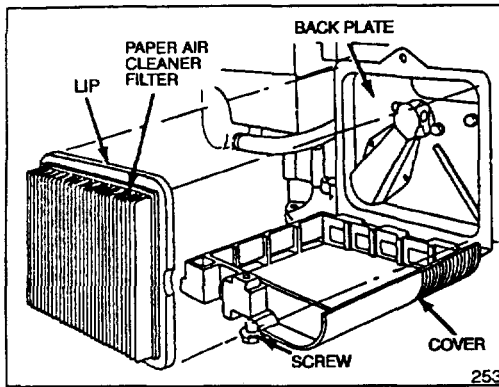

Figure 16
3. Remove paper air cleaner filter and discard (Fig. 16).
4. Insert new paper air cleaner filter cartridge so lip touches back plate as shown in Figure 16.